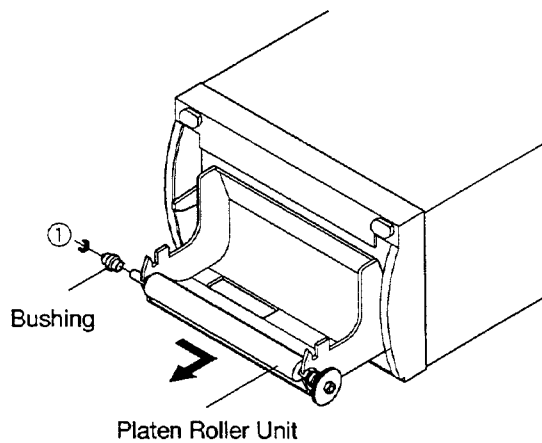

Fig. 11
2. Remove one E-Ring (①) shown in Fig. 11 and remove the Bushing.
3. Remove the Platen Roller Unit shown in Fig. 11 in the direction of the arrow.